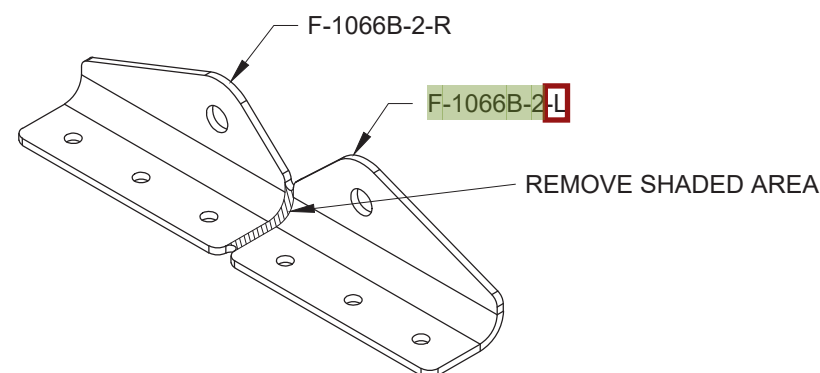

FIGURE 2: SEPARATE FLAP MOTOR ATTACH ANGLES
Step 2: Separate the **F-1066B-2** Angle into the **F-1066B-2-L** and **F-1066B-2-R** as shown in Figure 2.